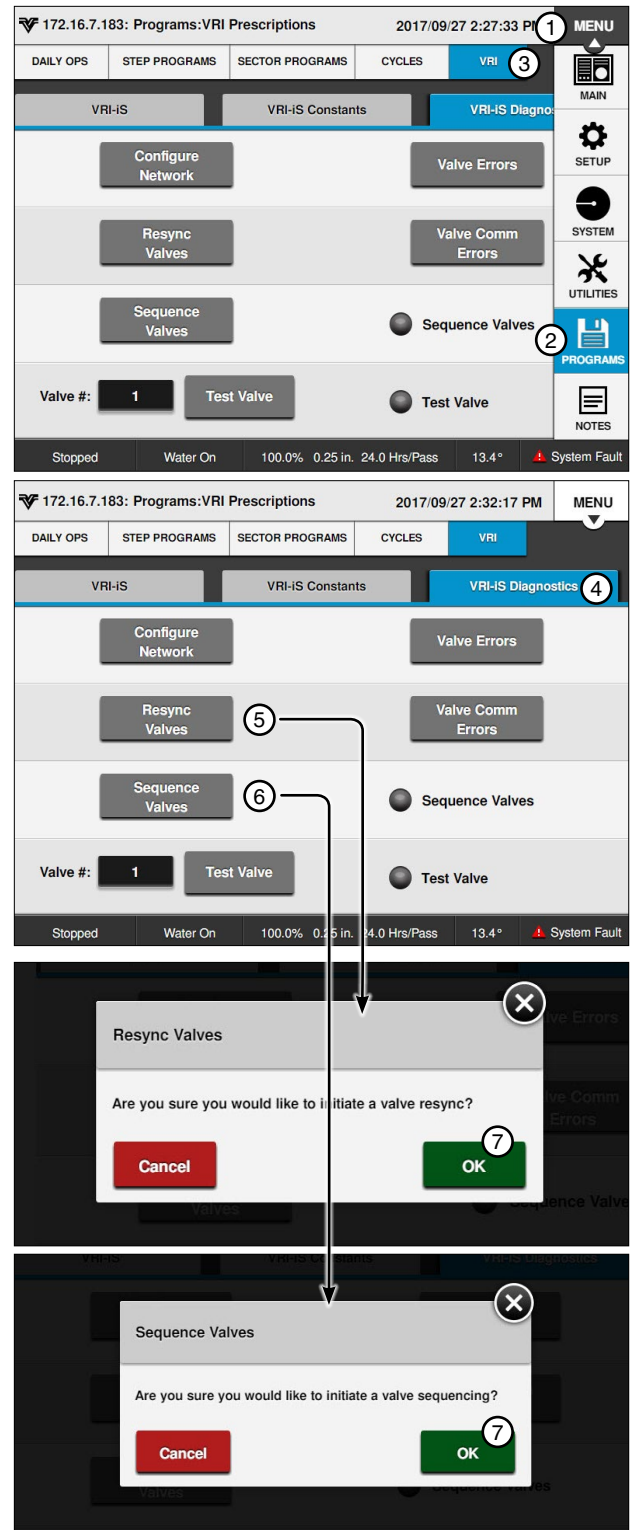

Figure 177-1 1. Menu
1. Push **Menu**, **Programs**, **VRI**, and **VRI-iS Diagnostics** to display the VRI-iS diagnostics screen. Refer to Figure 177-1.